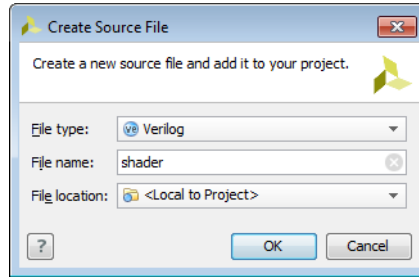

Figure 3-3: Create Source File Dialog Box
- In the Create Source File dialog box (Figure 3-3, page 49), set the following options, and click **OK**: